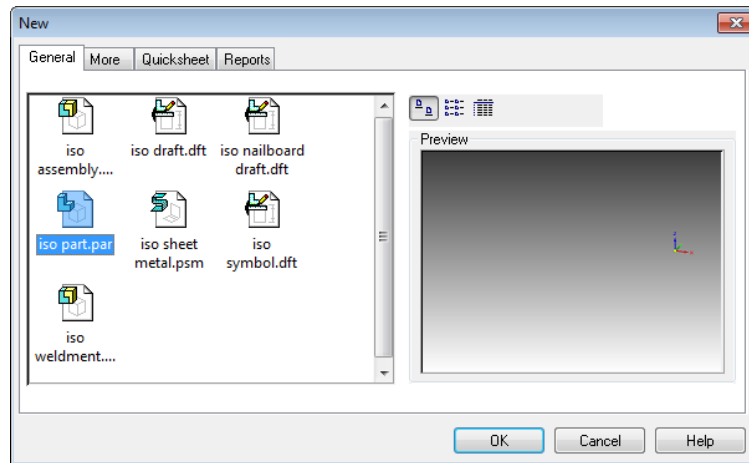

Figure 2-49 The New dialog box to start a new file in Solid Edge
1. Choose the **New** tool from the **Quick Access** toolbar; the **New** dialog box is displayed, as shown in Figure 2-49.
2. In this dialog box, select **iso part.par** from the **General** tab, as shown in Figure 2-49. Next, choose **OK** to start a new part file.